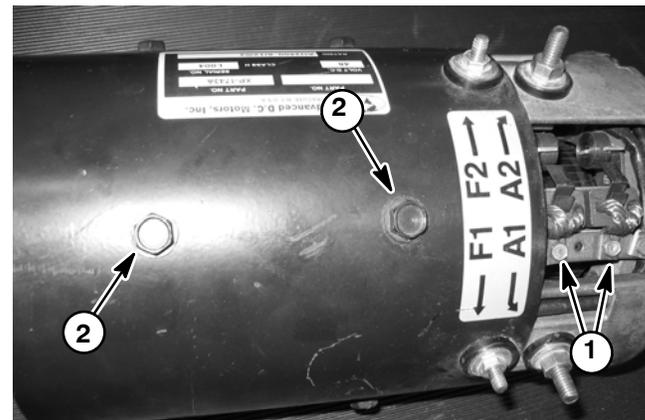

Figure 59
3. Brushes should always be replaced in complete sets of eight. Use identical replacement parts; do not substitute brush grades as the brushes are matched to the motor type and application to provide the best service. Substituting brushes of the wrong grade can cause premature commutator failure and excessive brush wear. Remove old brushes and replace with identical replacement parts. Hold brush shunts in position and torque brush screws from **18 to 22 in-lbs (2.0 to 2.5 N-m)** (Fig. 59). Hold brush shunts in position and torque brush screws from **18 to 22 in-lbs (2.0 to 2.5 N-m)** (Fig. 59). Make sure brushes move freely in the holders and that shunts do not interfere with brush spring movement.
4. Screws securing the pole pieces to the frame should be torqued from **250 to 300 in-lb (28.3 to 33.9 N-m)** (Fig. 59).